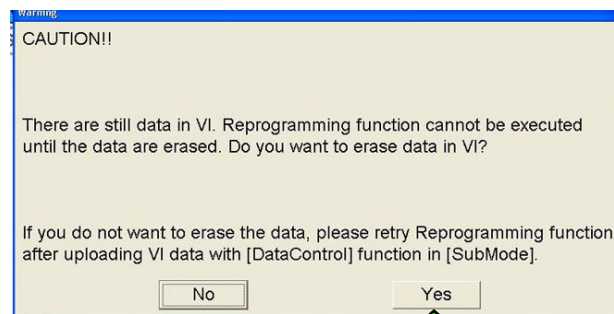

Figure 17A
**NOTE:** If the message shown in Figure 17A appears, there is data stored in the plus VI. Select "Yes" to proceed with reprogramming.